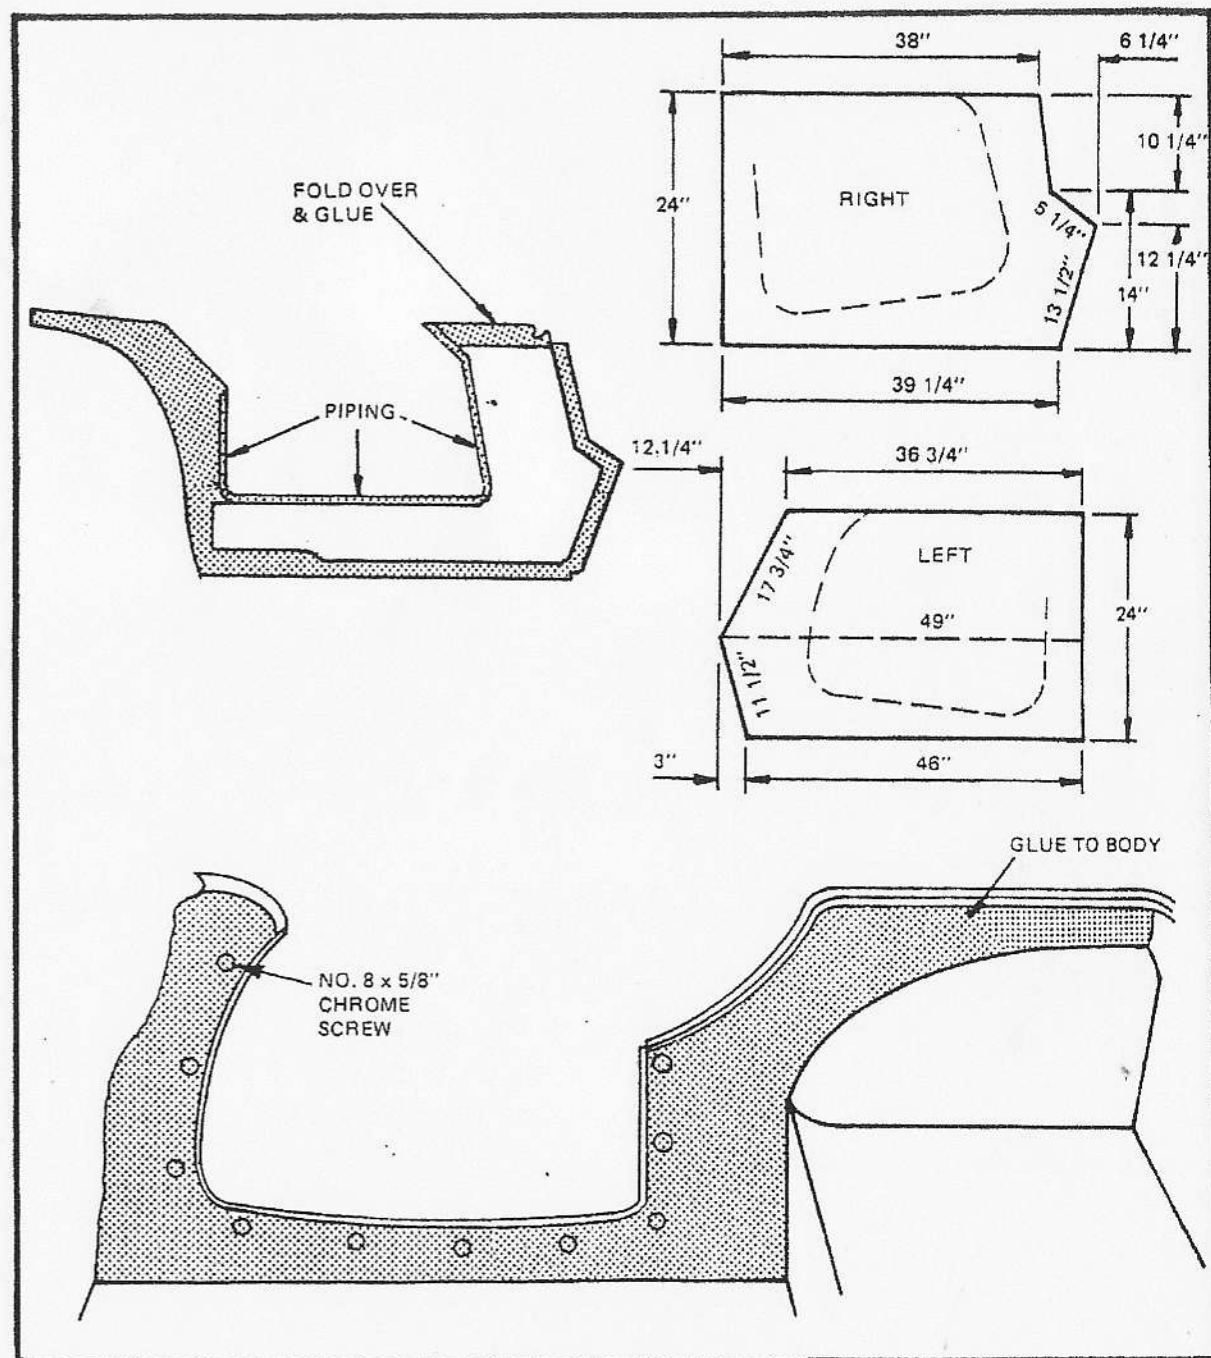

Figure 78
- ☐ Side sections fit around the door openings, extend forward to the firewall and back over the wheel hump. They must be mounted on a piece of heavy cardboard or paneling before they can be installed. This is due to the configuration of the body around the doors. As a basic pattern cut a piece of cardboard to the sizes indicated. (Figure 78)